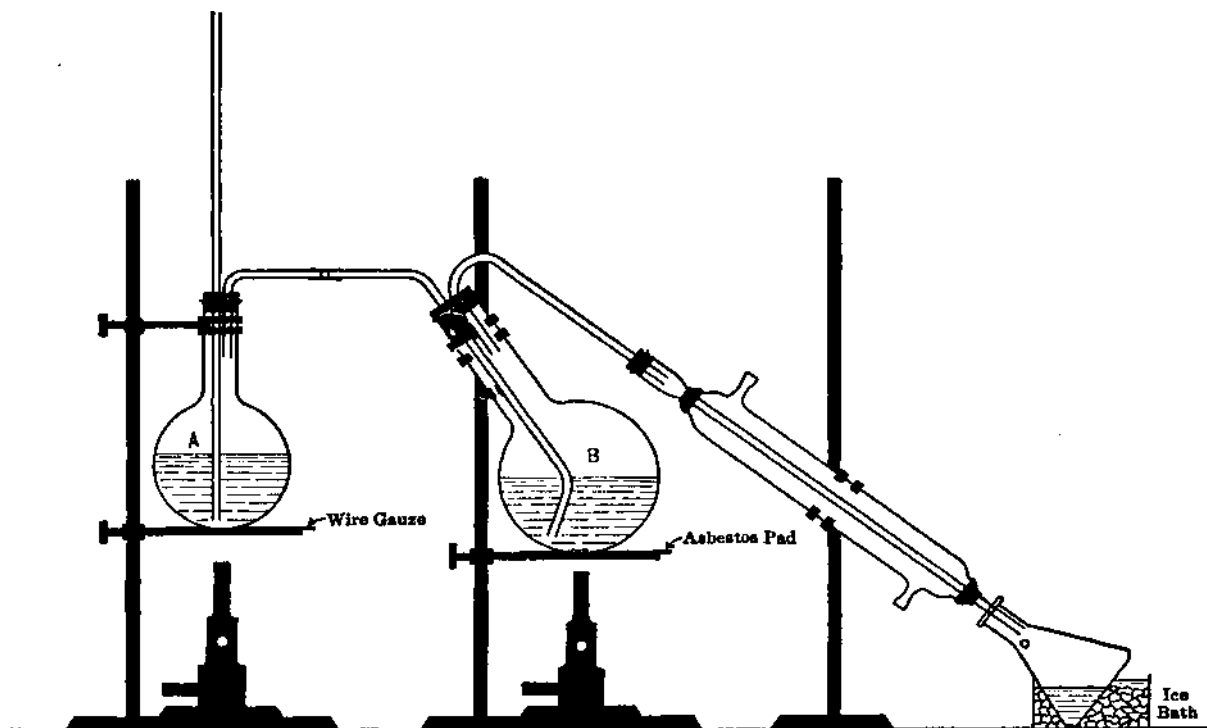
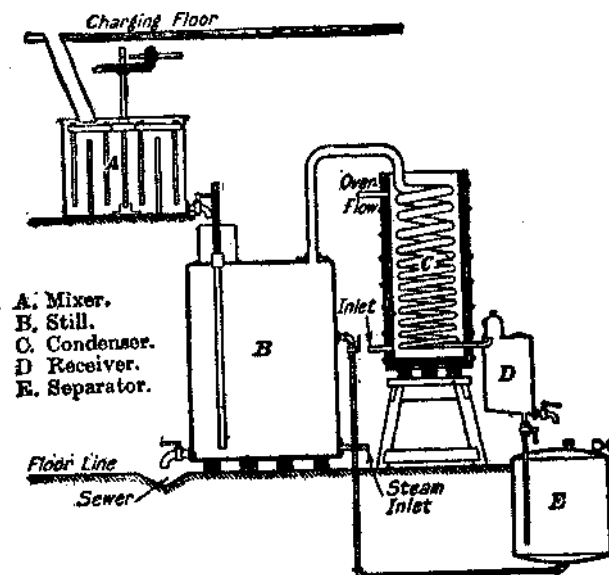

FIG. 25:
FIG. 27.—Manufacture of Chloroform.
When all the acetone has been added, reflux the mixture on a water bath for fifteen minutes. Cool to **room** temperature. Set up the apparatus as shown in Fig. 25. Introduce about a quarter gram of paraffin into the reaction flask (B) to reduce frothing. Before lowering the steam inlet tube to the bottom of the flask (B), have steam generated in flask (A). Pass steam from flask (A) through the reaction flask (B) until no more chloroform distills. This may be ascertained by collecting two or three cc. of distillate and noting whether any oily droplets of chloroform are present. If the distillate is clear and no oily droplets are present, discontinue the distillation. If any lime-water is carried over mechanically with the distillate, neutralize it with hydrochloric acid (10%). Transfer the distillate to a separatory funnel, draw off the lower (chloroform) layer and discard the upper (aqueous) layer. Wash the chloroform layer twice by shaking it vigorously in a separatory funnel with 10 cc. portions of water. Transfer the washed chloroform to a small Erlenmeyer flask and add about 2 g. of anhydrous calcium chloride. Stopper well and allow to stand until the next laboratory period. Then decant the chloroform into a dry 50 cc. distilling flask and distill from a water bath into a dry, weighed flask. Weigh the receiver with the chloroform and calculate the **per cent yield of chloroform from the weight of acetone** used.
11. In general, when should the receiver (Fig. 25) be kept in an ice bath during distillation?
12. In Fig. 27,
13. Compare the individual parts of equipment of Fig. 27 with those of Fig. 25.